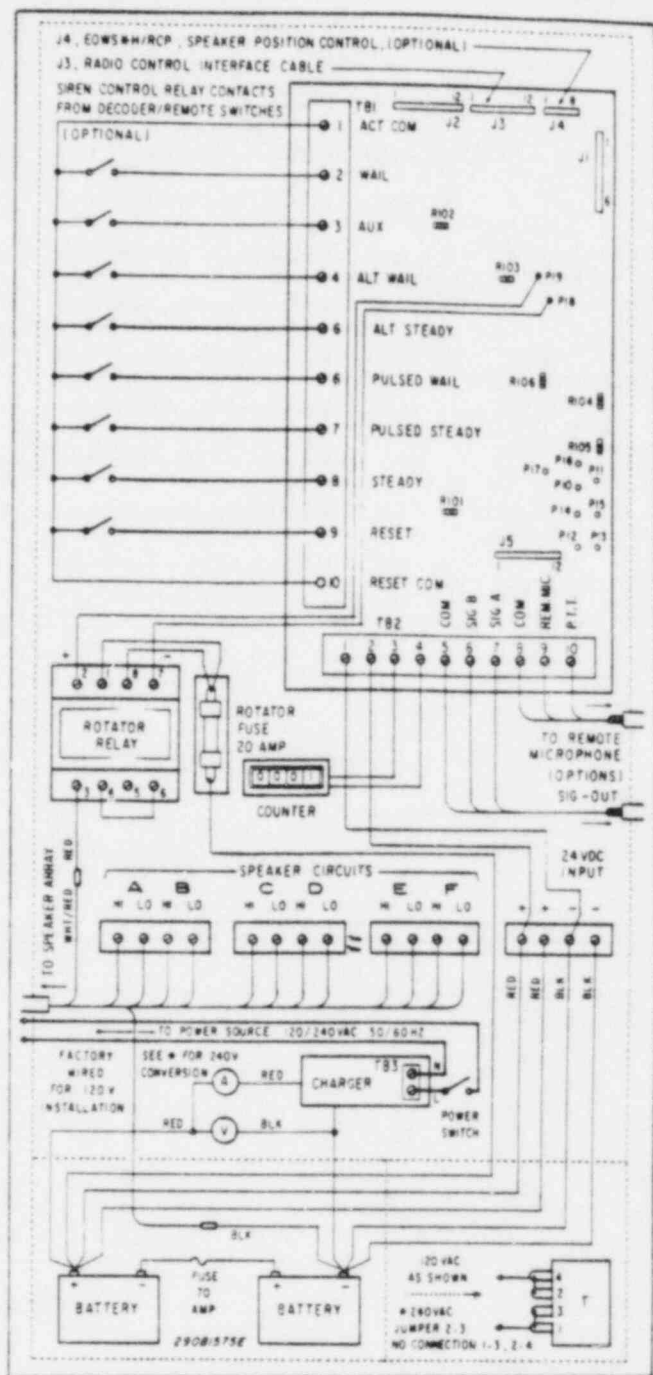
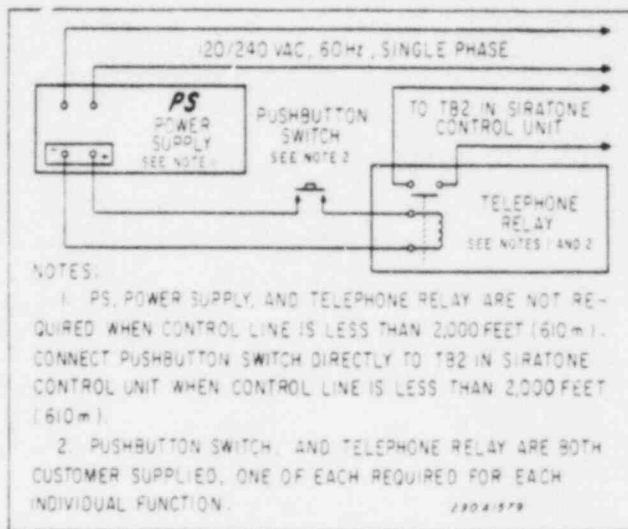

Figure 4-3. Control Unit Wiring Diagram.
Figure 4-5. Landline Control Circuit.
4. Connect the power wires and lightning protector (see figure 4-3 and 4-4) to the terminal strip directly in front of the charger (bottom) panel in the interior Control Unit. Close both panels, in the interior of the Control Unit, and replace the screws.
2. If desired, a user-supplied remote microphone can be connected to the SiraTone. Connect the microphone to TB2-8, 9 and 10, as shown in figure 4-3.
3. A user-supplied auxiliary audio amplifier, having an input impedance of at least 500 ohms, can also be connected to TB2 in the Control Unit. Connect the user-supplied amplifiers to TB1-5, 6, and 7, as indicated in figure 4-3.
4. If the SiraTone is to be land-line controlled, install one user-supplied pushbutton switch, such as Federal Model SO, for each function, at the control site. If the siren control site is greater than 2000 feet (610m.) from the siren installation, install a SPST telephone relay, such as the Federal Model TRC*1020 between the two sites for each function, as indicated in figure 4-5. In addition, a 48Vdc power supply, such as the Federal Model PS, is required for telephone relay operation. Telephone relays and a power supply are NOT required if the length of the control lines is less than 2000 feet (610m.). Connect each push-button directly to the appropriate terminals of TB1, as shown in figure 4-3.